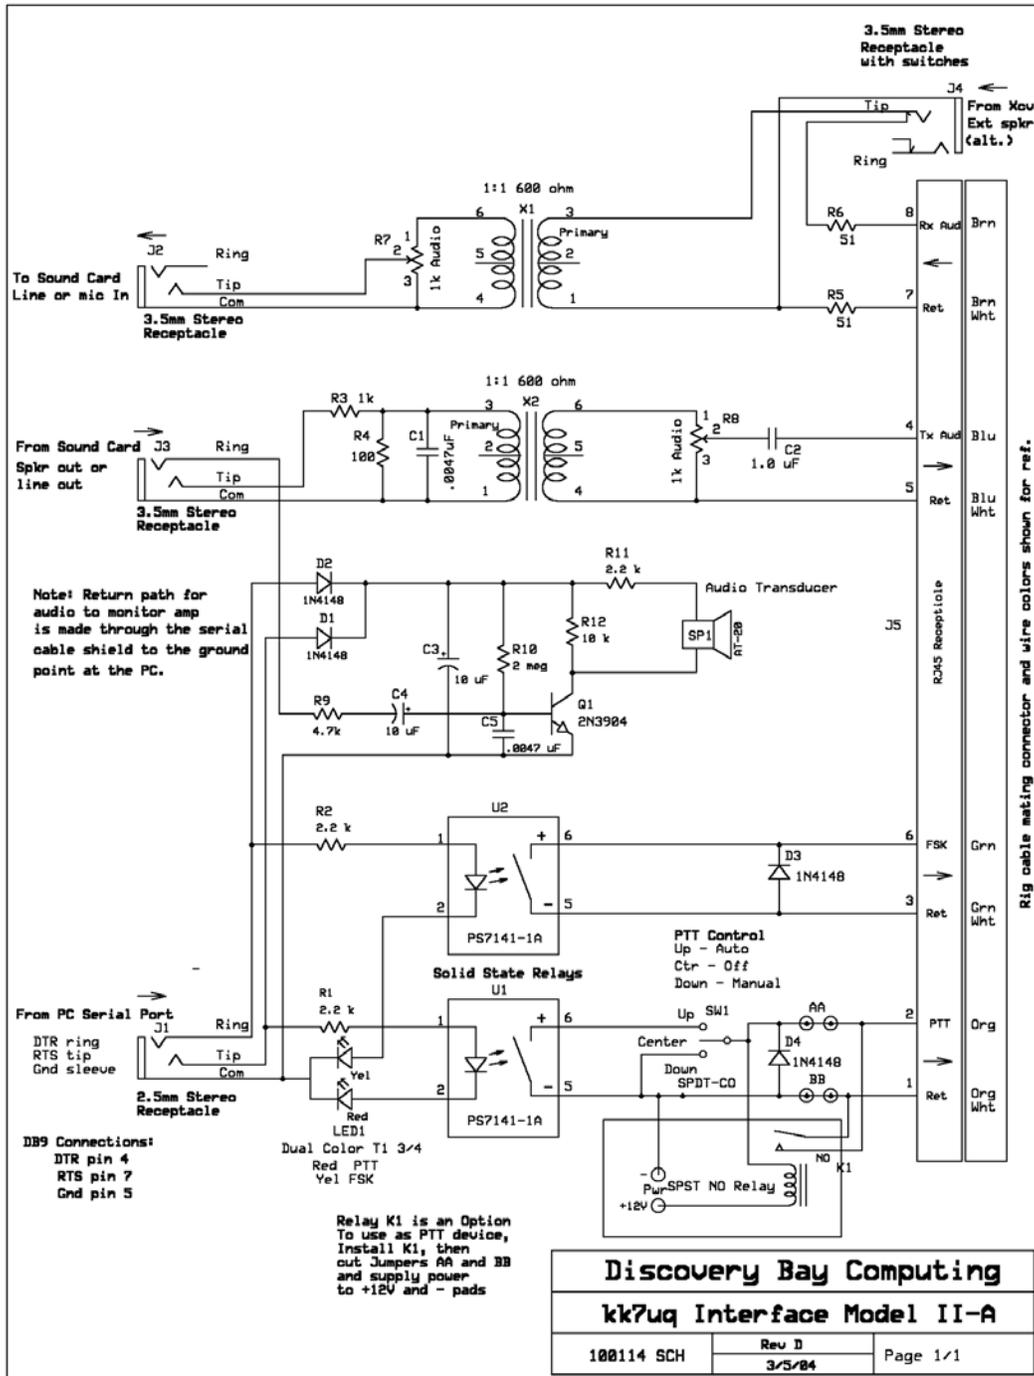

Figure 3.1 Sound Card Interface Schematic Diagram
3.2 Description of the Interface - The schematic diagram for the PCB is shown in figure 3.1 below. Sound card or PC functions are shown on the left side of the drawing. SSB rig functions are shown on the right side of the drawing. Signal flow is indicated by arrows to show the flow from the source to the destination.